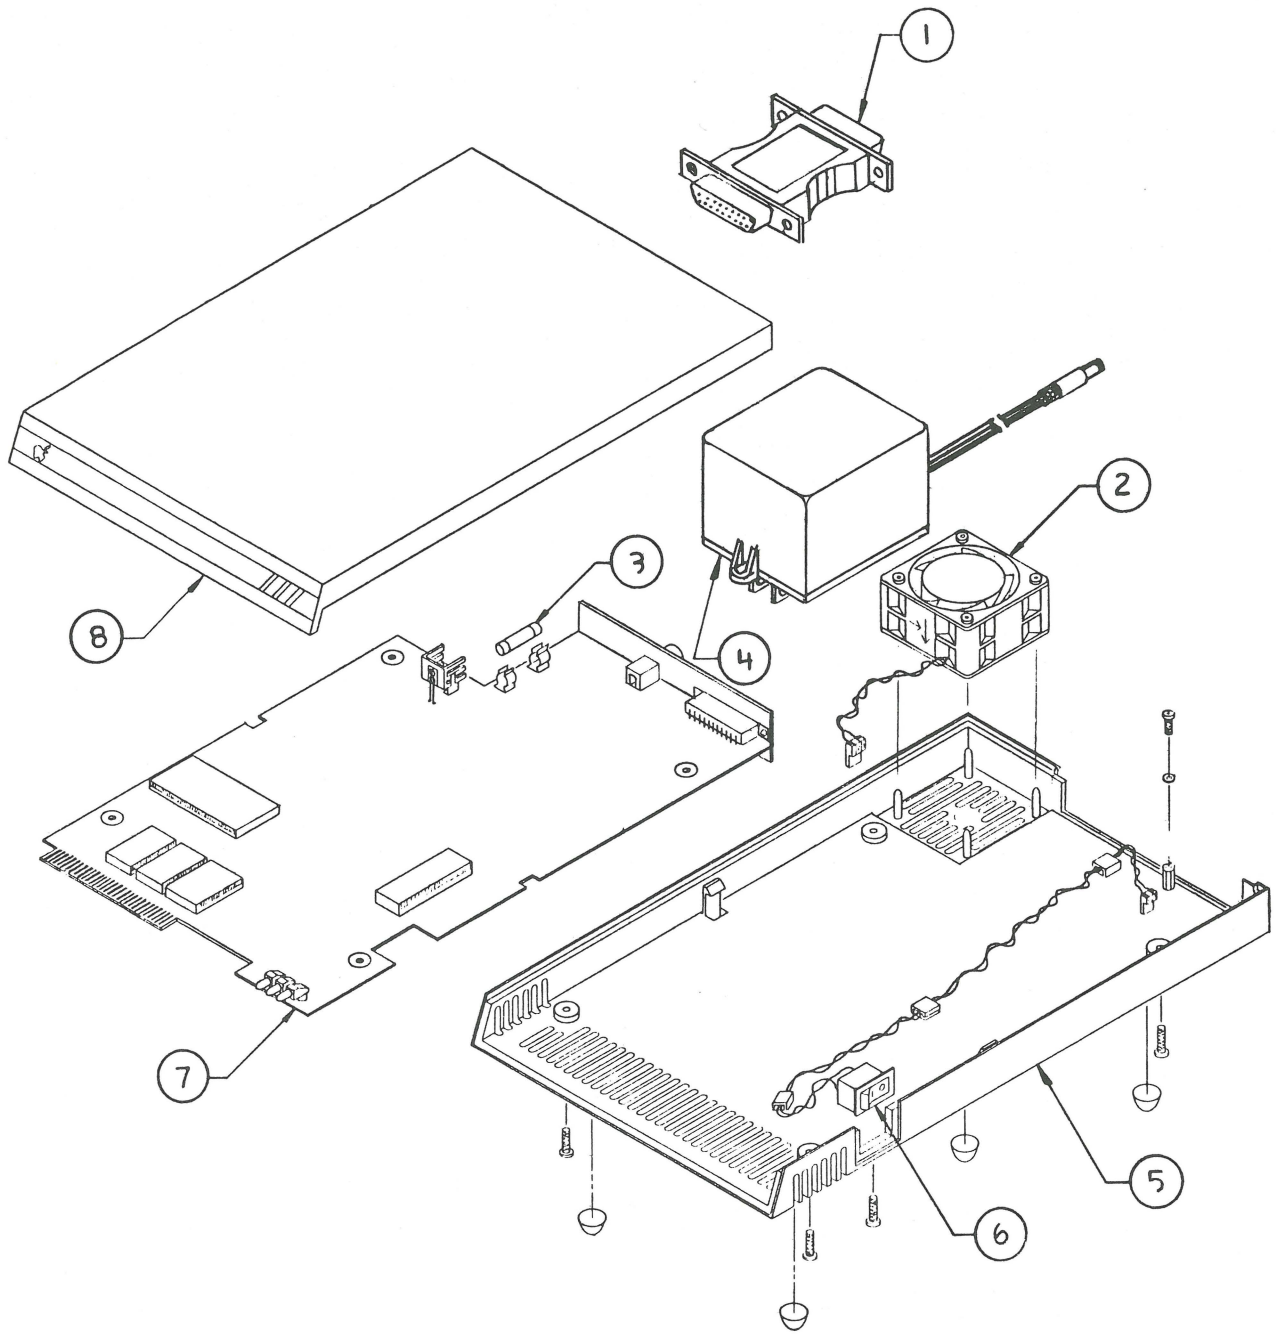

FIGURE 1
IPL.2 AppleLine (Figure 1)
□ APPLELINE (Figure 1)